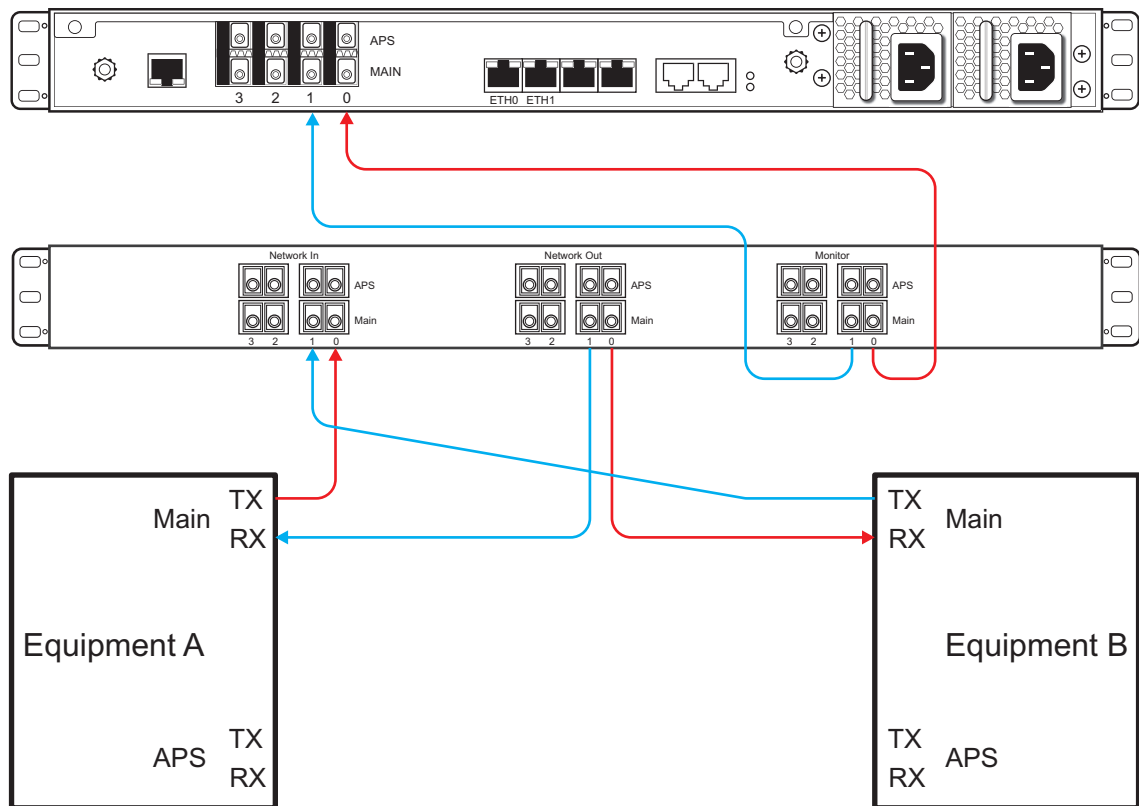

Figure 2.2 Connections for the Monitoring of Two **Main** STM1 Interfaces
1. Connect the TX fiber of equipment A to **Main 0** of the **Network In** region of the TM3000 patch panel, as shown in figure 2.2 on page 11.